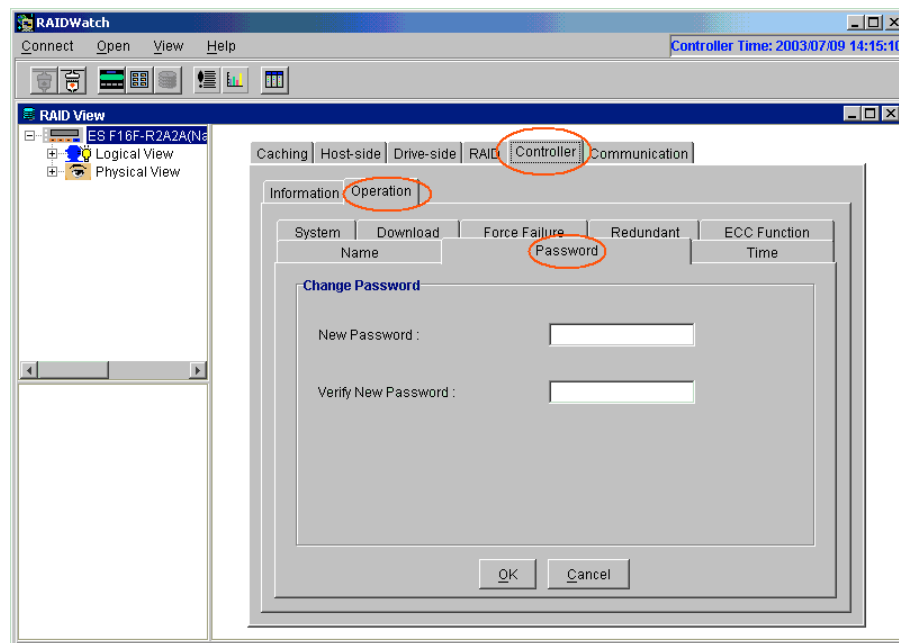

Figure 4- 7: Enter a new password
Step 2. From the **Configuration** window, click on the controller tab, under **Controller**, click on the operation tab, under **Operation**, choose the **Password** tab. The Change Password dialog box appears as shown in *Figure 4- 7*: